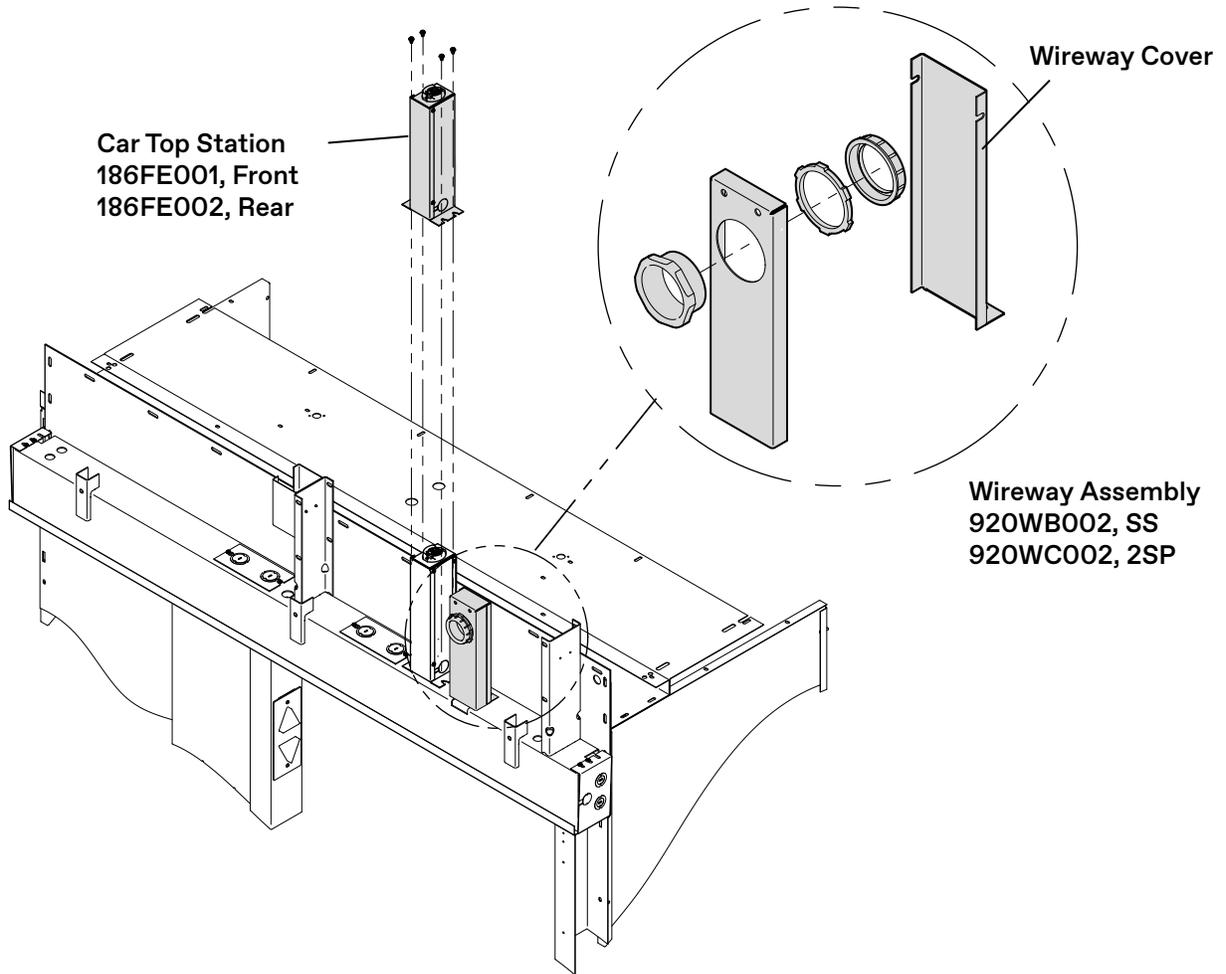

Figure 2- Attach the Wireway Assembly
- a. Remove the rubber grommet on the header panel, and insert the wireway assembly in the provided holes next to the Door Operator Control Board. See Figure 2 on page 14.